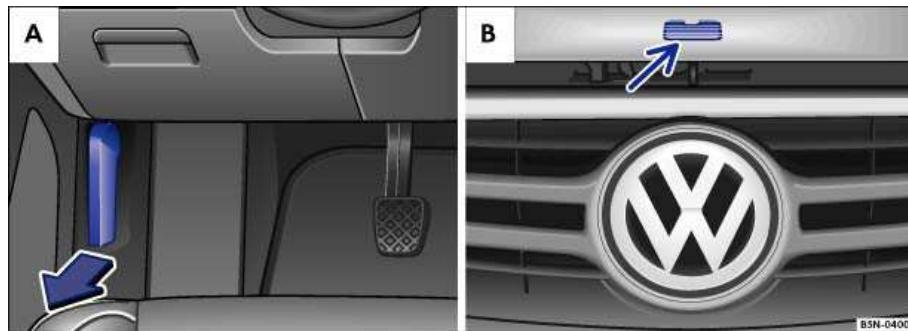

Fig. 167 A: Inside engine hood release in the footwell on the driver side. B: Outside engine hood release in the radiator grille.
- Before you open the hood, make sure that the windshield wiper arms are resting on the windshield ⇒ ①.
- Open the driver door and pull the inside hood release lever in the direction of the arrow ⇒ fig. 167 A. The engine hood is released from its latch by a spring ⇒ .
- Push the outside hood release lever ⇒ fig. 167 B (arrow) and lift the hood all the way up.